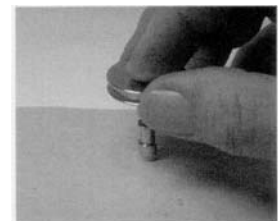

Figure 4
- a. Gently stretch the backup ring (item 23) and place into the groove on the stem of the piston.
- b. Lightly lubricate the o-ring (item 22) and roll it into the groove on the stem of the piston.
- c. Lightly lubricate the large piston o-ring (item 25) and roll into the groove in the flange of the piston.
- d. Place a new H.P. seat (item 21) on a clean pad on your work surface.
- e. Orient the piston such that the seat cavity is directly over the new seat. Gently push the piston down onto the seat. *Figure 4.*
7. Replace all shims (item 20) that were removed during disassembly into the regulator body (item 13) from the end cap side.